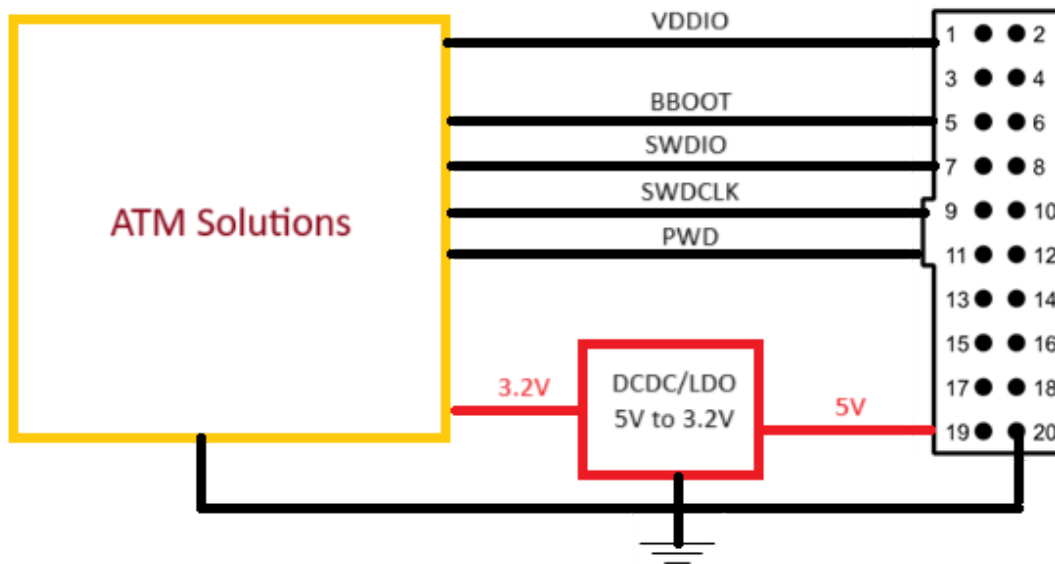

Figure 3 - Block Diagram of ATM Solutions - Segger J-Link Connection
Figure 3 - Block Diagram of ATM Solutions - Segger J-Link Connection
The only power output from the Segger J-Link interface is 5V-supply at pin 19. For programming purposes, it is highly recommended to use a voltage between 3.2V and 2.9V at VBAT or VBATLI pins. See Figure 3 for the connection block diagram.
As shown in Figure 3, users need to add a DCDC or LDO to convert 5 V to 3.2 V to feed the power to the ATM chipsets. Users can also use a bench supply, or any stable voltage source to generate 3.2 V to power up the SoC as long as the source can output enough power, e.g. 400mA for the whole programming process. The power requirement may vary depending on the peripheral circuits, and memory of the products.
3. Connect the ground (TP12) to the supply ground with the J-Link ground (pin20) as shown in Figure 3.